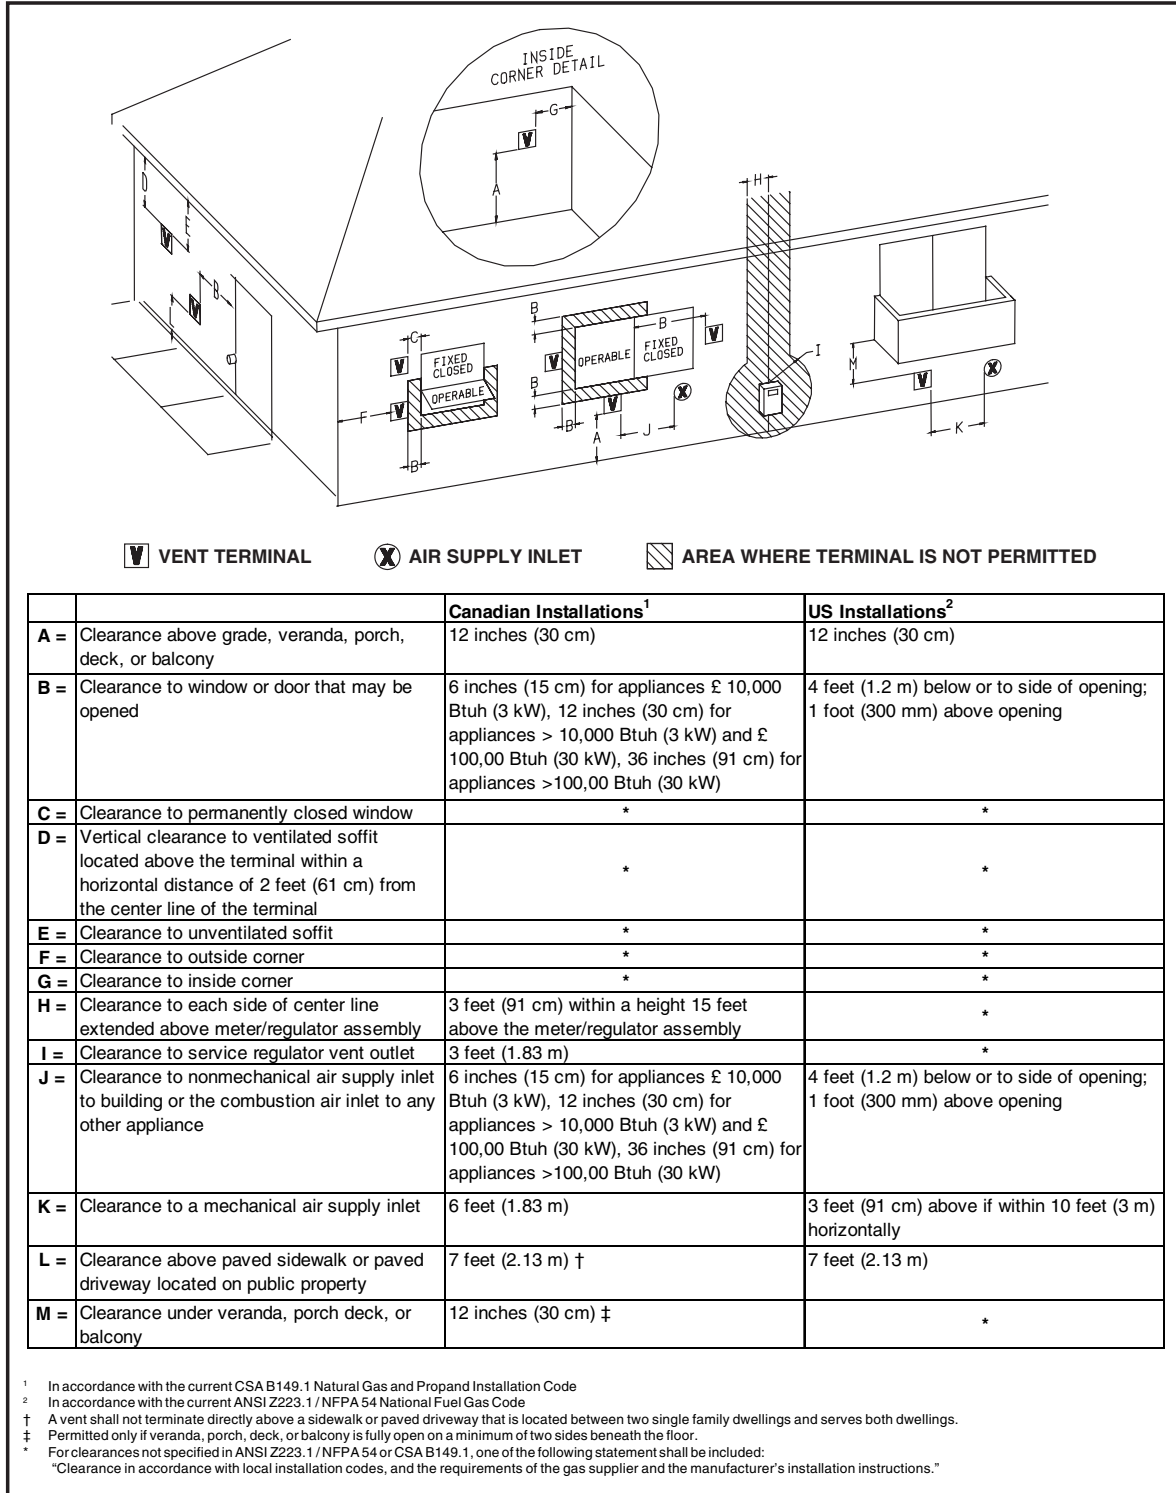

Figure 13. Vent Termination Clearances
The vent termination tee must be installed with the following minimum clearances. (See Figure 13.) Vent termination clearances shall be consistent with the **National Fuel Gas Code, ANSI 2223.1/NFPA 54 and/or the CSA B149.1, Natural Gas and Propane Installation Code.**
3. The vent termination shall be a minimum of 3 ft. above any forced air inlet within 10 ft. (See Figure 13.)